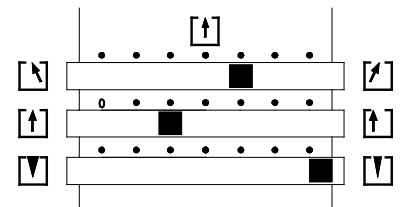

Fig. 46 Adjusting the illumination of the transmitted light illuminator S
- Set the desired procedure (Fig. 46) with the lighting control (Fig. 45/1).